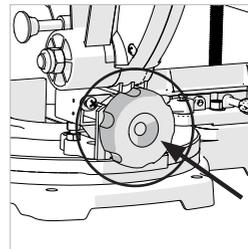

Fig. 21A
- Loosen the bevel locking screw. (**Fig. 21a**)